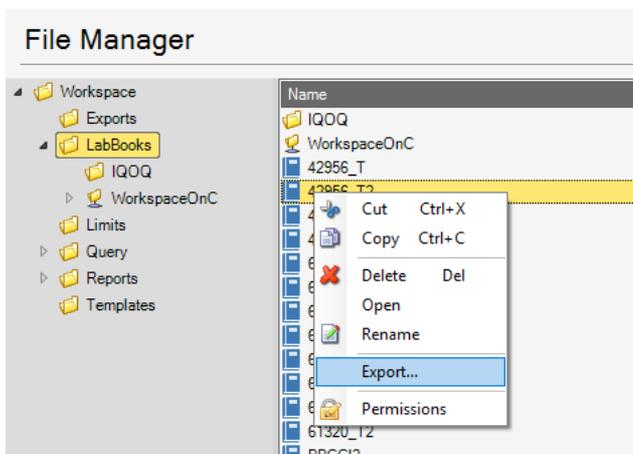

Figure 4-67. Shortcut menu of file for export
2. Right-click the file you wish to export, see Figure 4-67.